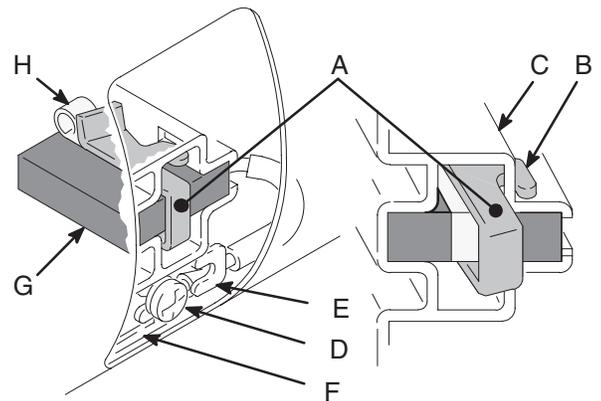

Fig. 4
4. Fig. 4. Push in 110816 spring clip (A) to release hooks (B) from brush holder (C). Pull out spring clip.
5. Fig. 4. Loosen terminal screw (D). Pull brush lead (E) away, leaving motor lead (F) in place. Remove brush (G) and spring (H).
8. Fig. 4. Slide brush lead (E) under washer of terminal screw (D) and tighten screw. Be sure motor lead (F) is connected at terminal screw.